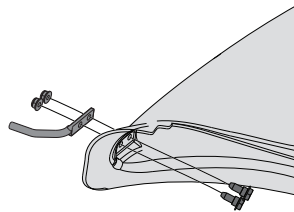

Figure 14
1. From the inside of the boot, put the two hex head screws (738-1225) through the holes at the bottom front of the boot. See Figure 14.
2. Put the mounting rod (747-06043) in place over the hex head screws. Make sure the tip of the rod is facing out from the boot. See Figure 14.
3. Begin threading the flange lock nuts (712-04064) onto the hex head screws. See Figure 14.